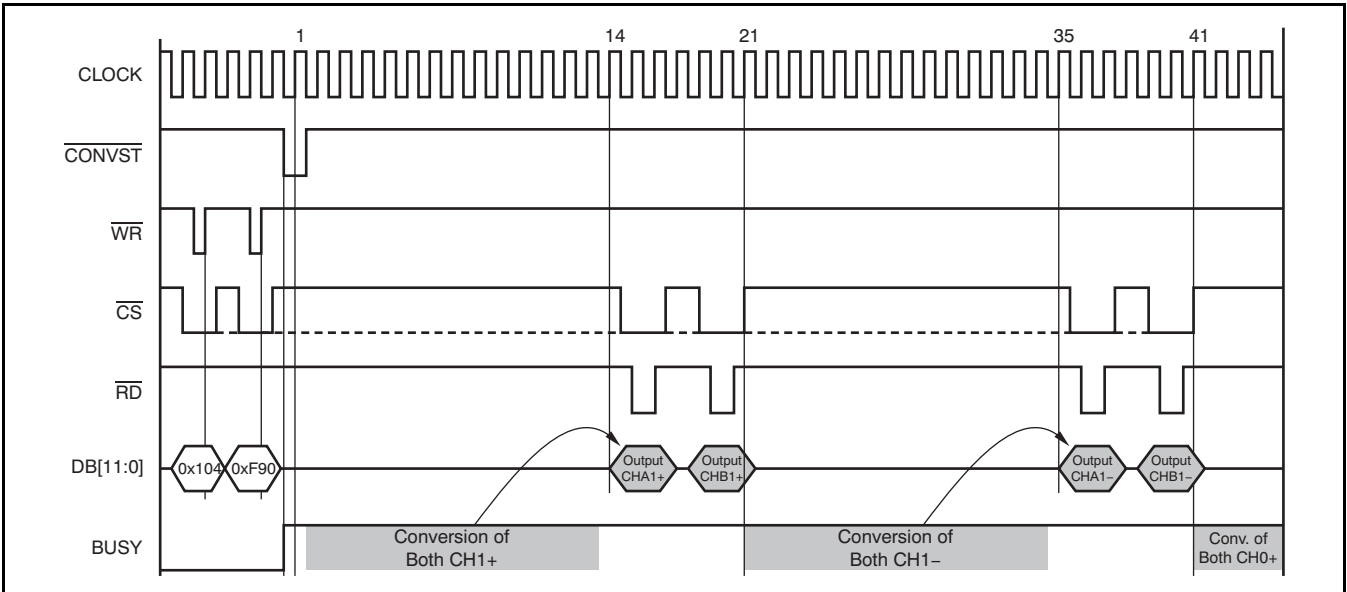

Figure 34. Sequencer Programming Example
A/B data of the second-last channel in the sequence, and so on. Trying to read out more results (2, 4, or 6) than the actual sequence length results in 000h at the output of the converter. Older conversion results are overwritten if all data of a completed sequence have not been read out before issuing a new conversion start. Figure 34 shows an example where the sequencer is set to scan through the pseudo-differential inputs of the ADS7865 beginning with CHx1+, followed by CHx1– and CHx0+, while using a single CONVST and BUSY for the entire sequence. The internal LIFO pointer is reset with every BUSY signal rising edge. Therefore, to ensure proper data retrieval, the sequence results should either be read after completion of the entire sequence conversion or between two consecutive conversions within the sequence as indicated in Figure 34. Other read options may deliver incorrect results.
- Updated Figure 34 20